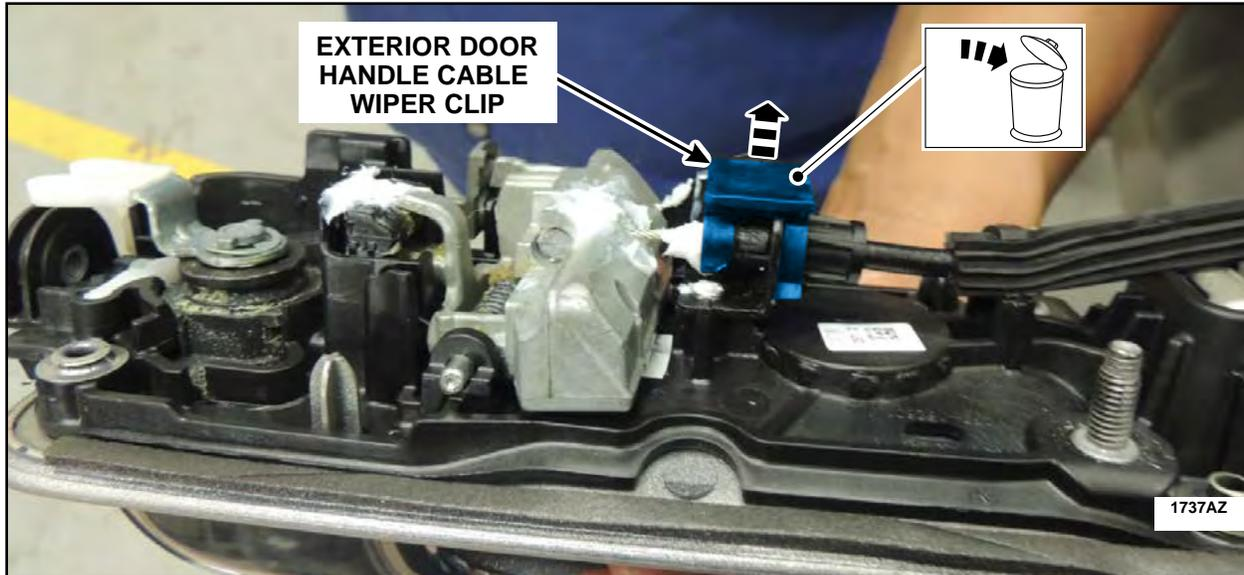

FIGURE 61
2. If a cable wiper clip is present on the exterior door handle cable end, remove and discard the cable wiper clip. See Figure 61.